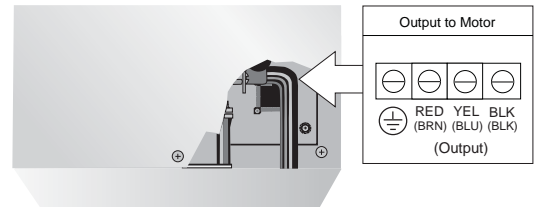

Figure 3: Motor Lead Connections
5. Feed the motor leads through the opening on the bottom right side of the unit and connect them to the terminal block positions marked GND (Green/Yellow Ground Wire), Black, Brown, Grey (Figure 3).